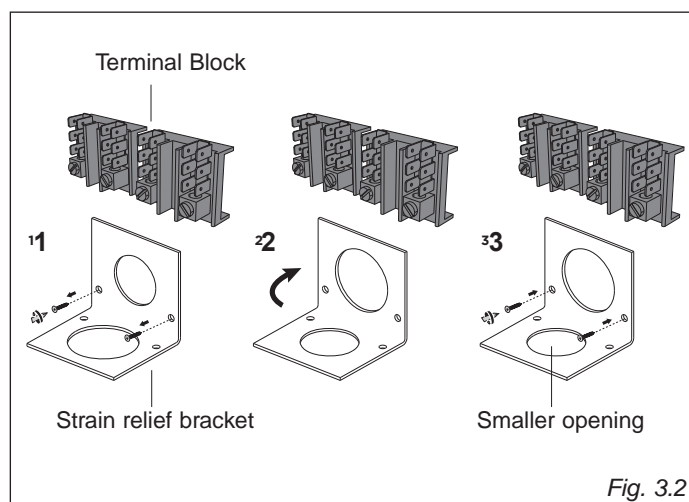

Fig. 3.2
- The strain relief bracket orientation must be so that the 7/8" (22mm) smaller opening is facing down (fig. 3.2). If not, the strain relief bracket orientation must be switched in order to accommodate for a permanent wiring connection: